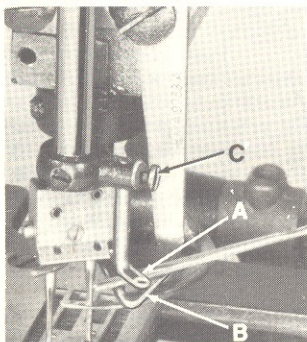

**FIGURE 21**
Spreader thread eyelet (A, Fig. 21) should be set so that the shank of a Type 147 needle, .080 inch (2.00 mm) barely passes between the under surface of the spreader eyelet and the top of the stationary spreader thread guide (B), when needle bar is in its lowest position. Turn eyelet (A) so its eye is directly over the front end of the slot in stationary guide (B). Screw (C) secures eyelet (A).